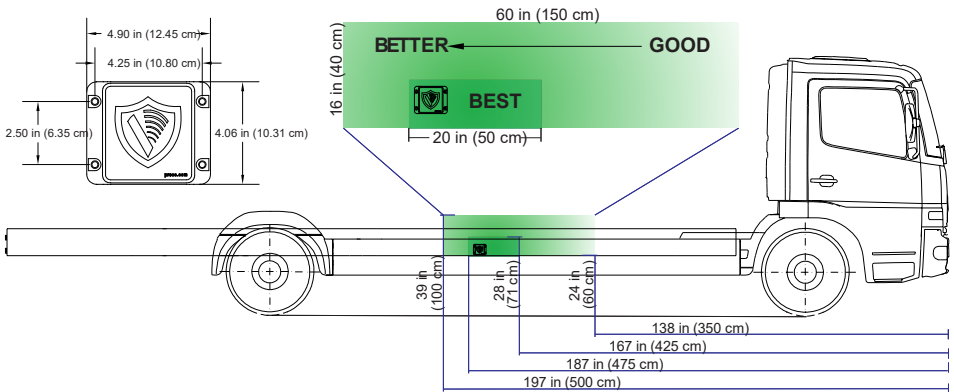
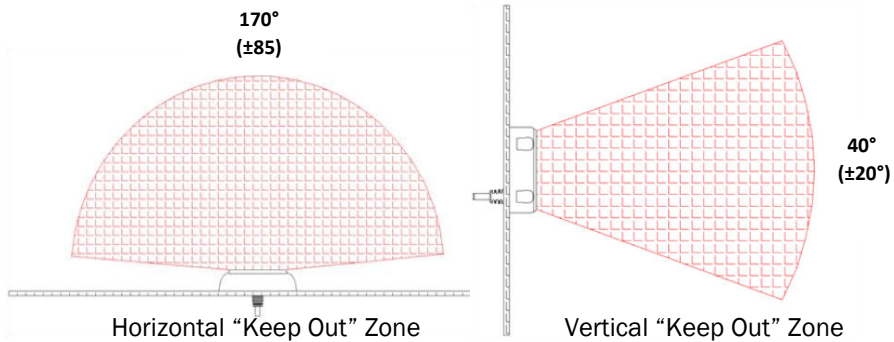

Figure 4 - Sensor Position on Vehicle
Figure 5 - Keep Out Zones
The sensor mounting location is **IMPORTANT** for proper system operation. The sensor should be mounted on the side of the vehicle with the bottom of the radar no lower than 24 in (60 cm) and the top of the radar no more than 39 in (100 cm) above the ground and between 138 in (350 cm) and 197 in (500 cm) back from the front edge of the vehicle. The sensor face should be perpendicular to the ground and oriented as shown in Figure 4 . Select a location that will provide some protection from impact and debris while allowing an unobstructed view of the target area of interest. Refer to the Keep Out/Interference Zones in Figure 5 for required clearance information.
For optimal performance, the sensor should protrude beyond any other portion of the vehicle. Metallic and other strong radar reflecting objects must remain outside of the Keep Out Zones defined in Figure 5. Radar reflecting objects within these areas may affect operation. If those objects cannot be removed, testing must be performed to determine the influence on the system's performance.
2. The standard mounting configuration is with the 'shield' logo upright, as shown in Figure 4 .